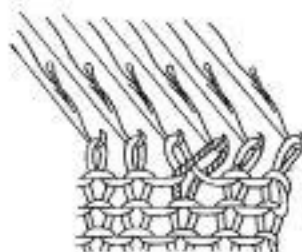

Fig. 41-2
- With the single eye Transfer Tool, pick up a loop from the next stitch one row below and place it in the empty third needle hook. (Fig. 41-2)